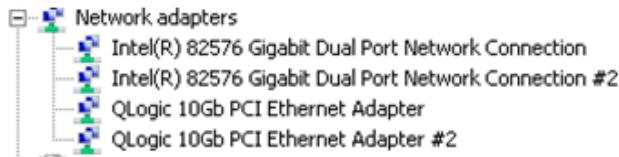

Figure 3-20. Typical Ethernet Adapter Port Entries for Windows 2008
- Click **Network Adapters** (for NIC drivers). Find each port of the QLogic adapter NIC function that is listed as QLogic10Gb PCI Ethernet Adapter under this section. Figure 3-20 shows typical entries for a dual-port QLogic 8100 Series Adapter.